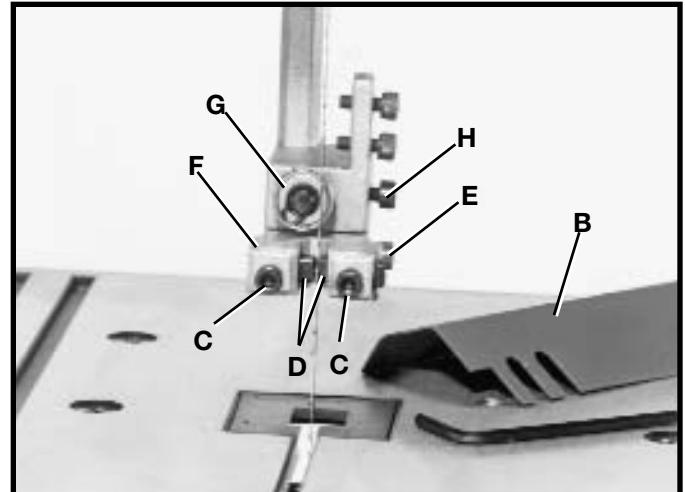
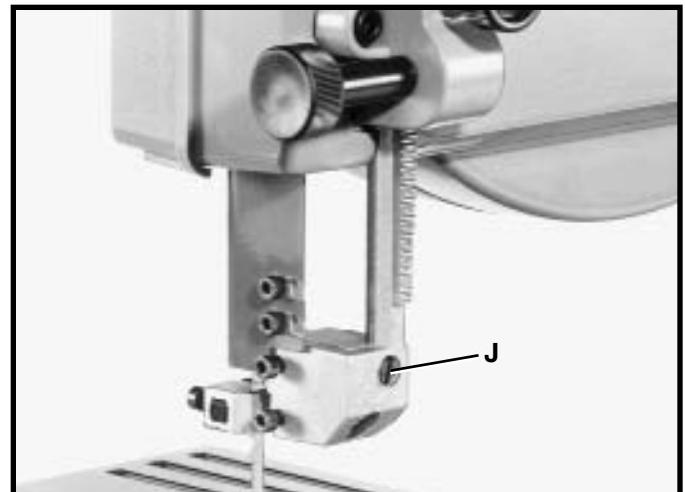

Fig. 22
Fig. 23
1. **NOTE:** Upper blade guard (B) Fig. 22, is shown removed for clarity.
2. Loosen the two screws (C) Fig. 22, and adjust the blade guides (D) as close as possible to the sides of the saw blade, being careful not to pinch the blade. Then tighten the two screws (C).
3. Loosen screw (E) Fig. 22, and move the guide bracket (F) in or out until the front edge of the guides (D) are just behind the "gullets" of the blade teeth. Then tighten screw (E).
4. The upper blade support/thrust bearing (G) Fig. 22, prevents the saw blade from being pushed back too far when cutting. The support bearing (G) should be adjusted approximately $1/32"$ behind the blade, so the back of the blade overlaps the outside diameter of the ball bearing by approximately $1/8"$. To adjust, proceed as follows:
5. Loosen screw (H) Fig. 22, and slide support bearing (G) in or out until it is approximately $1/32"$ behind the saw blade.
6. The upper blade support bearing (G) Fig. 22, is set on an eccentric shaft. To change position of bearing (G), use a straight screwdriver, rotate shaft (J) Fig. 23, until the blade properly overlaps the support bearing. Then tighten screw (H).